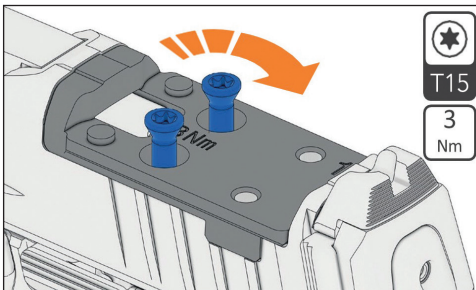

Figure 17 – Tighten screws
5. Tighten screws until the torque is reached (Fig. 17).